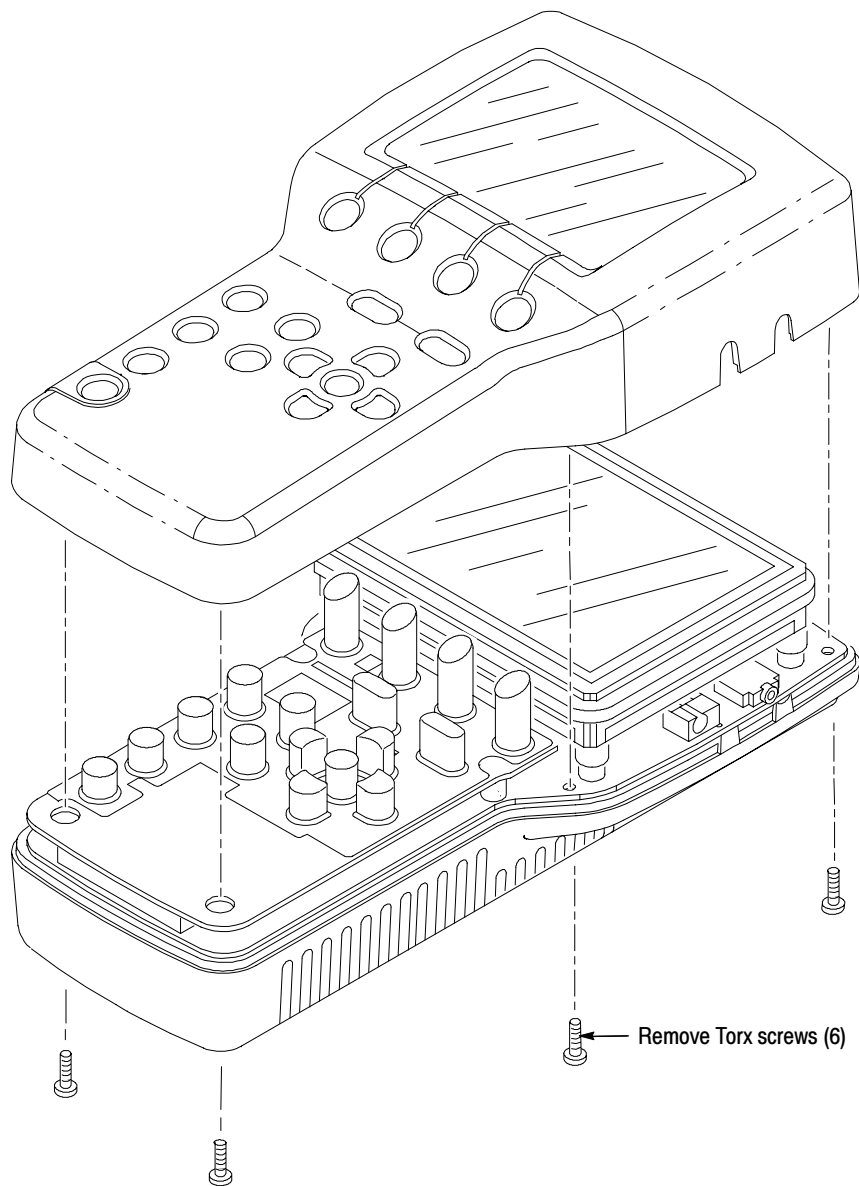

Figure 6-1: Removing the top cover
1. Remove the six retaining screws using the Torx-tip screwdriver. See Figure 6-1.